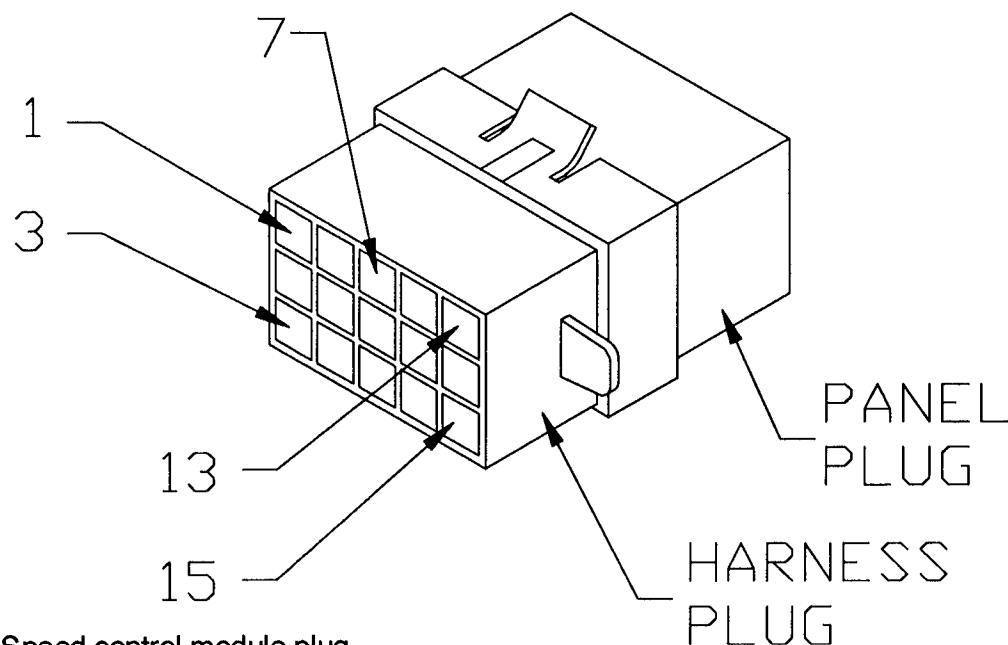
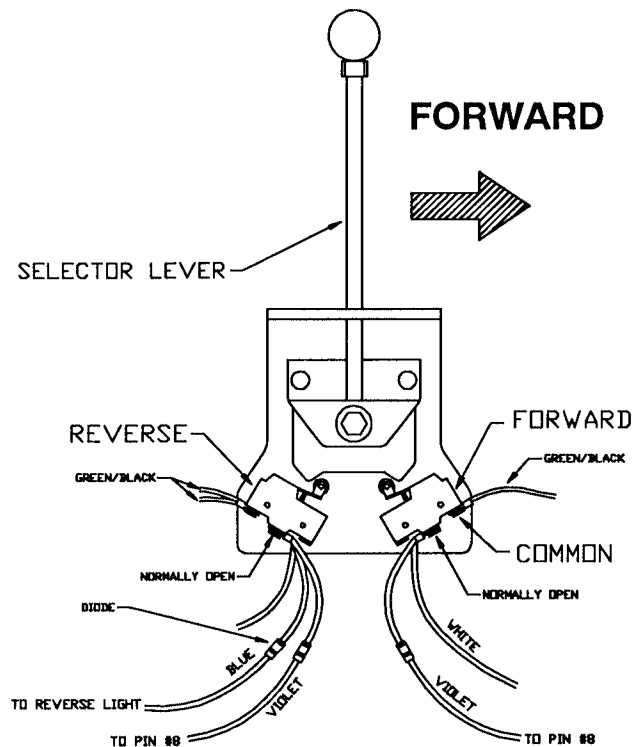

Figure 17 - Speed control module plug
Figure 20 - Forward / reverse switches
- 5** Check voltage at Pin 7 of the control module plug (see Figure 17).
- 3** Check voltage at common on forward / reverse switches (Figure 20).
If voltage at the forward switch normally open (Figure 20) is not positive (+) 12V then switch is bad. STOP.
If voltage at Pin 8 on the control module plug (Figure 17) is not positive (+) 12V then F&R diode/s (Figure 20) are bad. STOP
If voltage at the reverse switch normally-open (Figure 20) is not (+) 12V then switch is bad. STOP